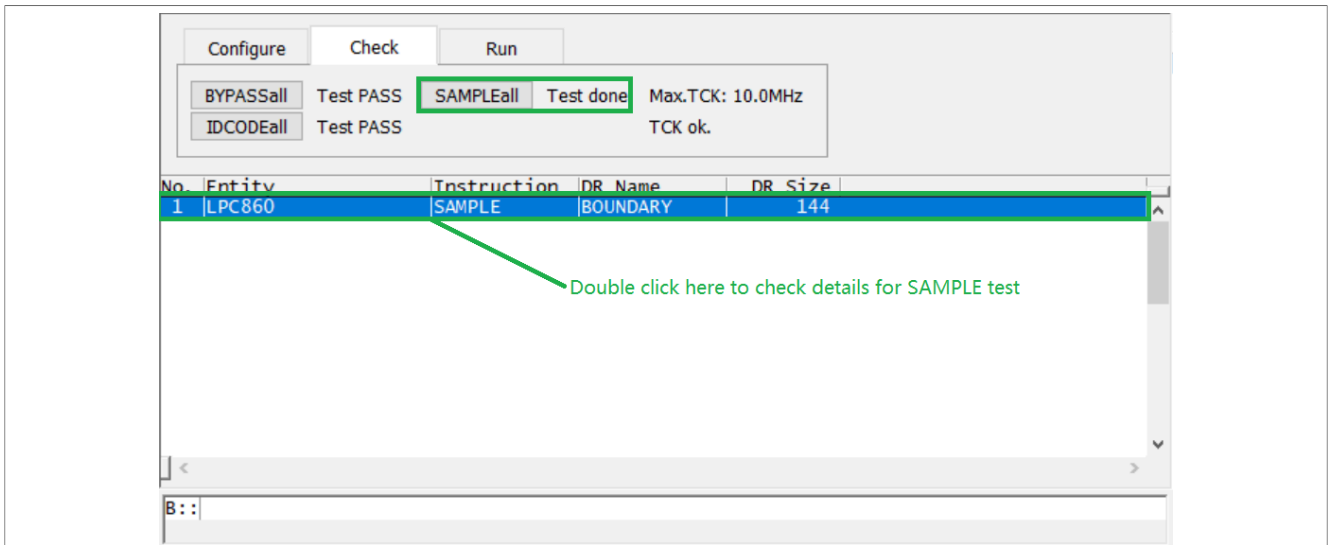
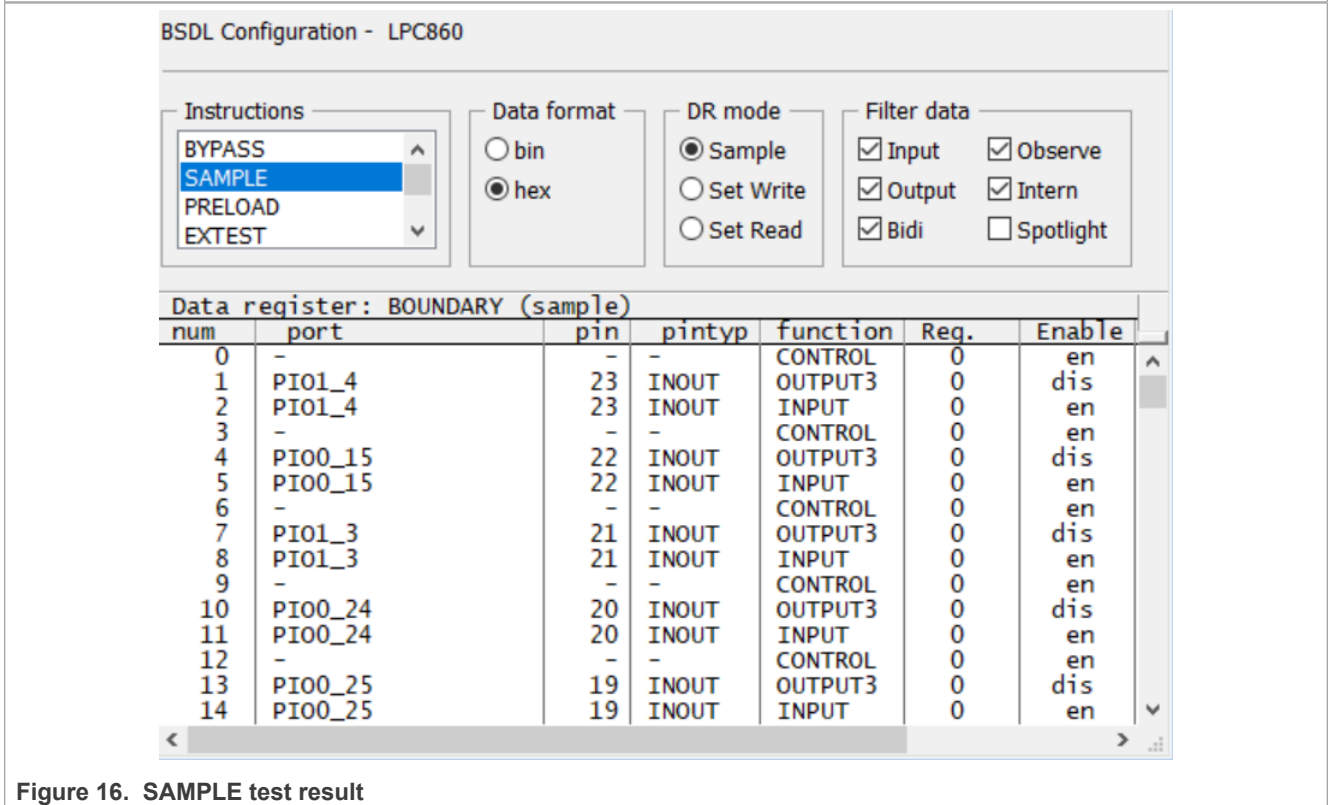

Figure 15. Checking SAMPLE
Figure 16. SAMPLE test result
- Click the **SAMPLEall** button, and **No result** becomes **Test done**. Double-click the entity name as shown in Figure 15, and the SAMPLE test result can be seen in the **BSDL.SET** window, as shown in Figure 16.